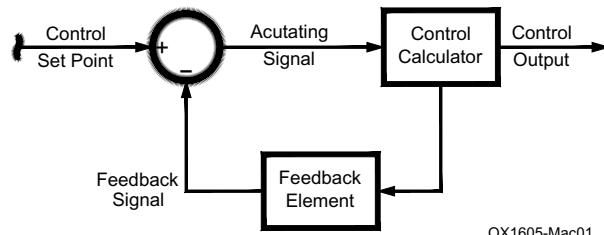
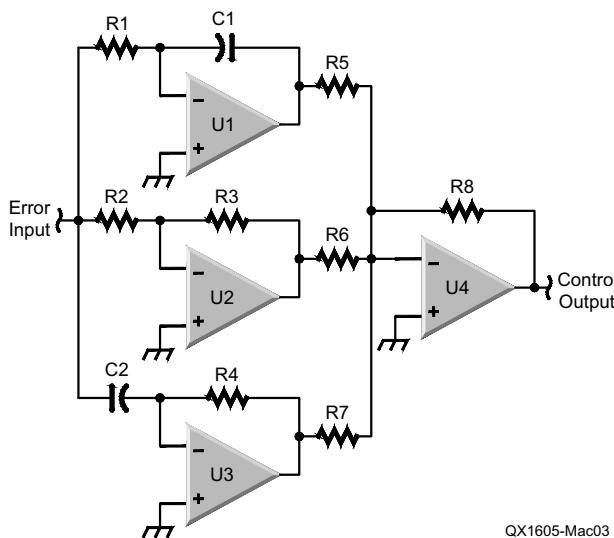

Figure 1 – Block diagram of a typical control feedback system.
Figure 3 – A representative op-amp circuit that implements the PID control.
We use closed loop control all the time in Amateur Radio. Regulated power supplies, phase locked loops, and oven control of crystal oscillator temperature are a few examples. All of these systems follow the block diagram shown in Figure 1. The goal is to control a physical property and maintain it at some value. Figure 2 shows the classic plot of the three types of step response of a controlled system can exhibit. The most stable (but not necessarily most desirable) response is over-damped response. This is the same response you get with a step in voltage on a simple RC circuit. It approaches the target voltage slowly until the difference between desired and actual is essentially zero. A faster response is the critically damped response. This is the response you get in an RLC circuit with extremely low Q. The resistance is so large that oscillations cannot get started. The fastest response possible is with an under-damped system. This is the same response you get in an RLC system with some moderate value of Q. The trade off in this system is significant cycles of oscillation above and below the desired value early in the response but with a rapid convergence to the desired value. The other trade-off is that the initial overshoot can be substantial.
Figure 3 shows an op-amp circuit that implements a hardware system with the performance of Eq. (1), and implements the control equation block from Figure 1. The top op-amp implements the integral term with the a parameter set by the ratio of $C1/R1$. The middle op-amp is a standard inverting amplifier where b is set by the ratio